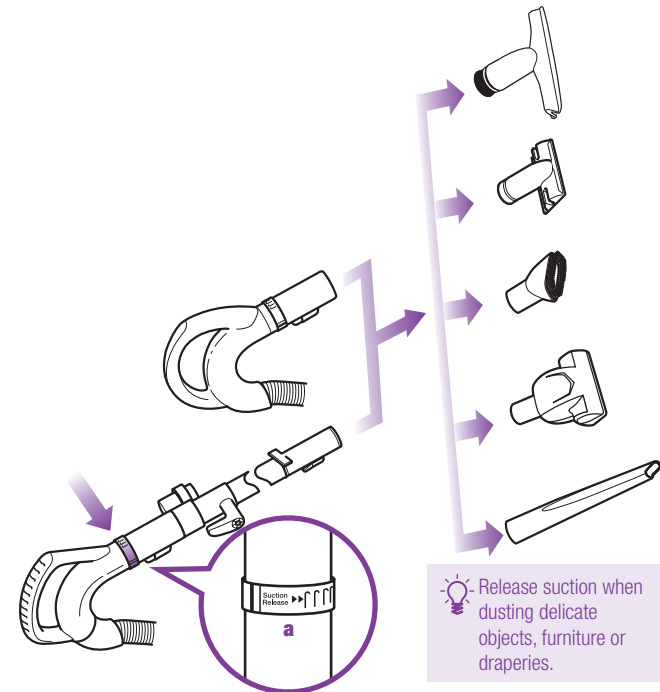

Fig. 18
- 2 Attach desired accessory onto the end of either the extension wand or the handle. (Fig. 18)
- 3 **Your vacuum has tremendous suction power. Adjust the amount of suction with the suction release on the handle. Open the valve (a) by rotating the collar 90° counter-clockwise for low suction when doing light jobs such as drapes or fine surfaces. Close the valve (a) by rotating the collar clockwise 90° for high suction and when using the hand held power brush. (Fig. 18-a)**